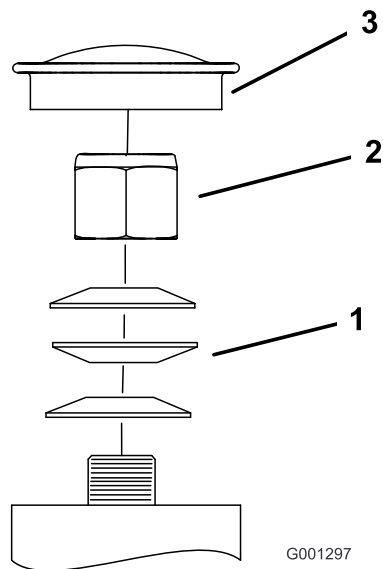

Figure 75
3. Remove the dust cap from caster and tighten the locknut (**Figure 75**).
4. Tighten the locknut until the spring washers are flat, and then back off a 1/4 turn to properly set the preload on the bearings (**Figure 75**).
Important: Make sure that the spring washers are installed correctly as shown in **Figure 75**.
5. Install the dust cap (**Figure 75**).